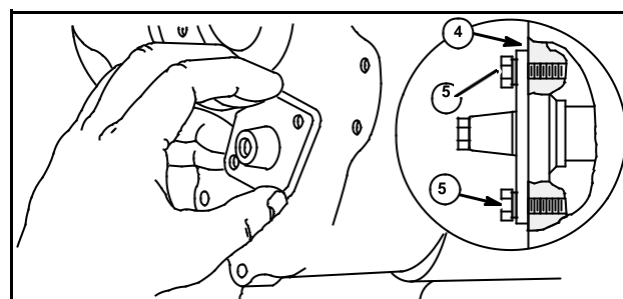

Fig. 6
4. Remove bolts from cam gear bearing, Fig. 6 and while holding cam gear, remove cam gear bearing and cam gear.
3. Remove bolts (5) from cam gear bearing, Fig. 6. While holding cam gear, remove cam gear bearing and cam gear. Save any shims (4, if used).